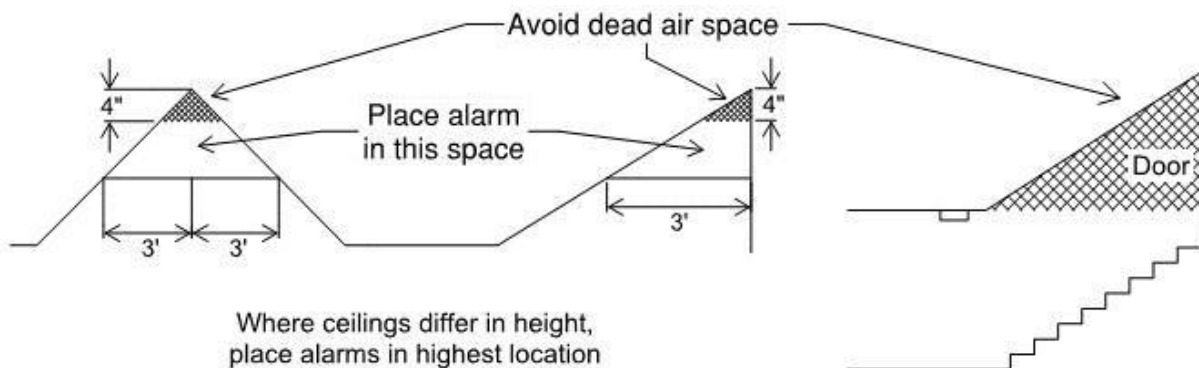

Figure 1: Smoke Alarms and Smoke Detectors in Sloped/Peaked Ceilings
- Alarms in **peaked or sloped ceilings** must be within 3 feet horizontally and no closer than 4 inches vertically to the peak. Avoid placing alarms in **dead air spaces**; refer to Figure 1. (NFPA 72 29.8.3.1, 29.8.3.2, 29.8.3.4 (9), (10))
- For coffered ceilings, alarms shall be installed on the highest portion of the ceiling or on the sloped portion of the ceiling within 12 inches vertically down from the highest point. (NFPA 72 29.8.3.4 (11))